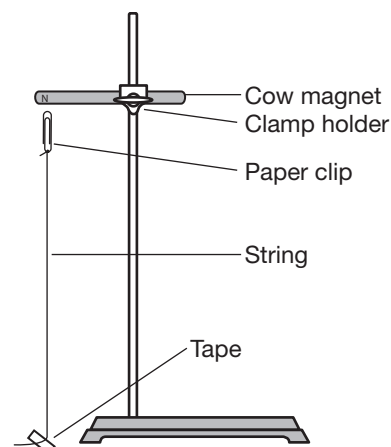

Figure 1.
7. Tape the free end of the thread to the table so the paper clip remains suspended just below the magnet. See Figure 1.